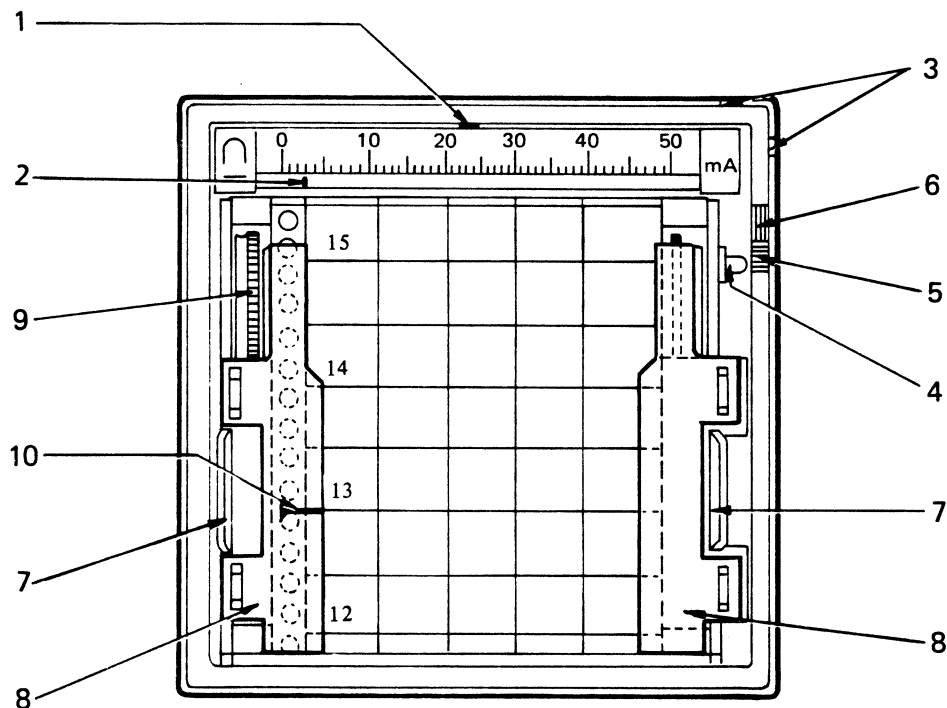

Fig. 2 RECORDER FRONT (TIME OF RECORDING 16:00 HRS)
9. Refer to fig. 2. The front panel controls are as follows:—
11. Refer to fig. 2. When the front cover is removed (para. 10) the locking lever (4) which also actuates a microswitch in the mains circuit to the synchronous motor becomes accessible. In the lower position marked by a green tab (5) the chart motor is switched on and locked into the case. In the upper position indicated by the red tab (6) the motor is switched off, the chopper bar is locked in the up position so that the pointer (2) is free and the chart drive unit is released. The drive unit can then be pulled forward by the two grips (7). The chart can be changed and/or the chart drive speed altered.
12. Refer to figs. 2 and 3. Open the recorder as described in paras. 10 and 11, the chart drive can now be swung downwards to give access to the chart feed spool (12) and the take up spool (19). These are positioned by means of spindles fitted into slots (13) & (20) and by spring clips (11) & (18). To replace a chart roll press the feed spool (12) slightly upwards and lift it out of the slots ensuring that the chart drive unit has been swung down for ease of access. Remove the expended chart tube, and push a new roll of chart into the spool (perforated edge towards the flange) which is then placed back in the slots with the flange to the left hand side and pressed downwards until locked. Pull about 20 cm (8 in.) in preparation for inserting the V-shaped end of the chart into the take up spool (19). The chart drive unit is now moved to the horizontal position, and the take up spool (19) is removed by gripping it from below, exerting slight forward and downwards pressure removing the spool from slot (20). When the right hand flange has been pulled clear of the spindle, the used chart can be removed. Refit the flange and push the V-shaped end of the new chart into the slot of the take up spool (19). Wind a few turns onto the spool with the face of the chart inwards, the flange and cog wheel should be to the left. Open the chart guides (8), and place the chart over the chopping roller (15), chart drive roller and guide roller (9) inserting the take up spool (19) into its slots (20) gently exerting upward pressure until the roller is locked in position. Return the chart guides (8) to their normal position and check that the chart perforations are correctly located on the drive roller sprockets. Return the chart drive unit into the case locking it into position with the lever (4) in the green (5) position. To set the start time, see para. 13.
13. By using the knurled rim (9) on the upper left hand side of the chart roller the chart can be moved manually. On the left hand side chart guide there is a mark (10) (see fig. 2) at a distance of 60 mm from the recording edge. If the recording chart is to be aligned with the time of day the chart must be moved by use of the knurled rim so that the timing which is 60 mm in advance of the required time, is aligned with the mark, e.g. for a paper speed of 20 mm/h time of day less 3 hours.